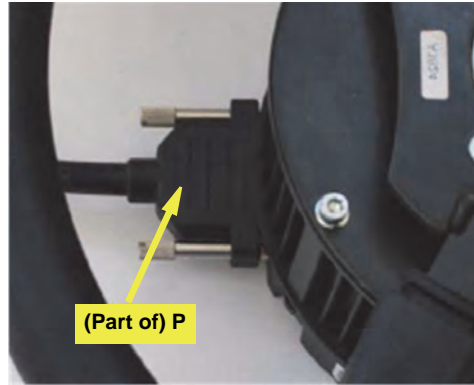

Figure 6b: Junction box comms cable connected to steering wheel assembly
- c. Clip the junction box **P** into place on its bracket **Q** (neither shown) then connect **P**’s 15-pin connector cable to the communications port on the steering wheel assembly (Figure 6b). Use clip **S** suitably (not shown).